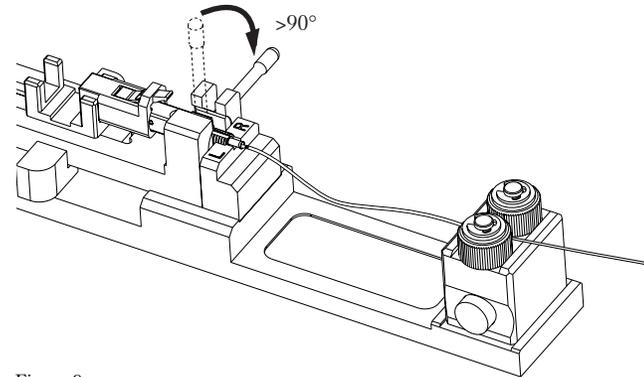

Figure 9
9. To **cam the connector**, rotate the wrench handle down until it stops. *The wrench handle must stay down after this step (Figure 9).*